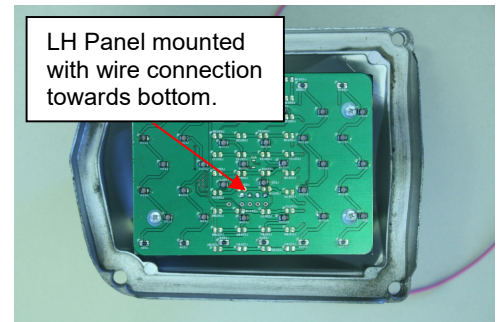
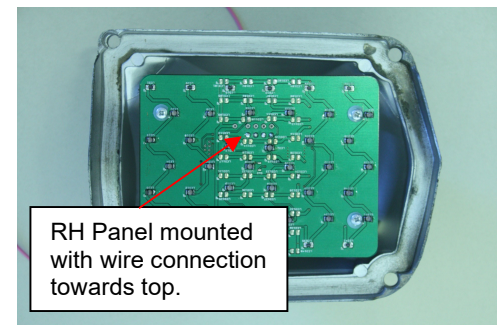

Figure 3
Figure 4
- 4.1. ORIENTATION OF PANELS – The panels must be orientated properly in order for the sequential patterns to be correct. Left Hand (LH) panel is mounted with the wire connections towards the bottom of the housing. The Right Hand (RH) panel is mounted with the wire connections towards the bottom of the housing. (See Figure 3 & Figure 4)